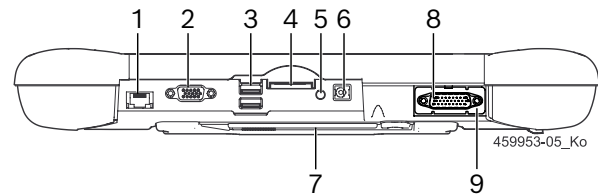

Fig. 2: View of KTS 350 interfaces
1. Plug the OBD connection cable into the KTS 350 (fig. 2, item 8) and into the OBD interface on the vehicle.